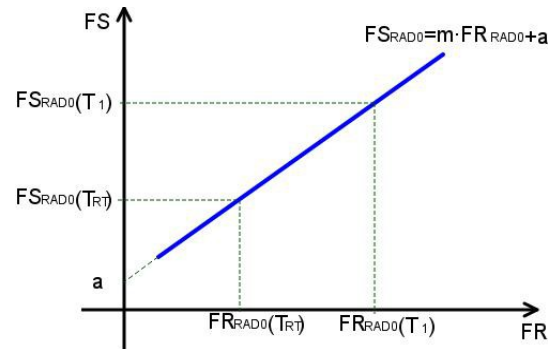

Figure 4: Variation of *FS* and *FR* with temperature
where  $FS_{RAD0}(T_{RT})$  is the sensor frequency with no radiation at room temperature. This line is shown in Figure 4. The resulting equation is:
With  $FR_{RAD1}(T_3)$  and formula (1),  $FS_{RAD0}(T_3)$  can be obtained. From Figure 4 it can be seen that: